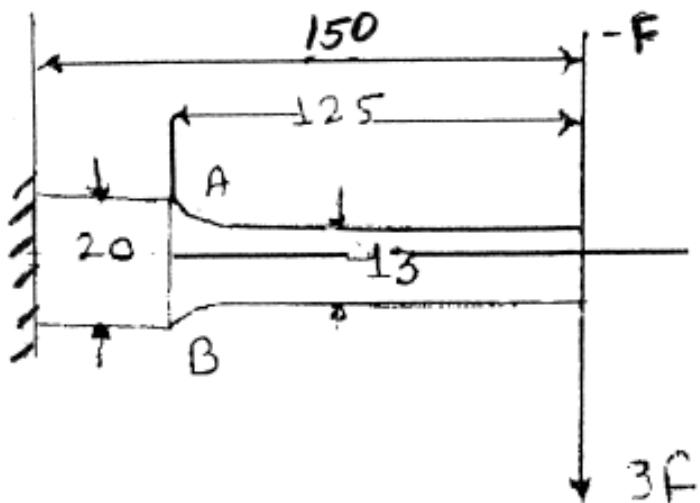

Fig. 3
- b) A cantilever beam made of cold drawn carbon steel of circular crosssection as shown in fig. 3. is subjected to a load which varies from  $-F$  to  $3F$ . Determine the maximum load that this member can withstand for an in definite life using a factor of safety as 2. The theoretical stress concentration factor is 1.42 and notch sensitivity is 0.9. Assume the following valves. : 10